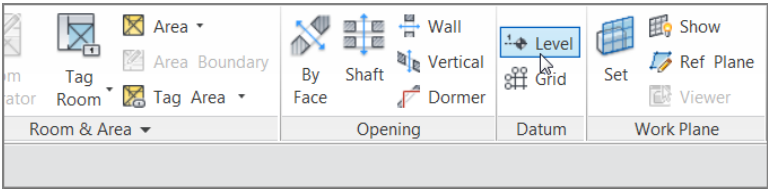

FIGURE 3.4: Adding a level from the Datum panel on the Architecture tab
- 1. On the Datum panel of the Architecture tab, click the Level button, as shown in Figure 3.4.